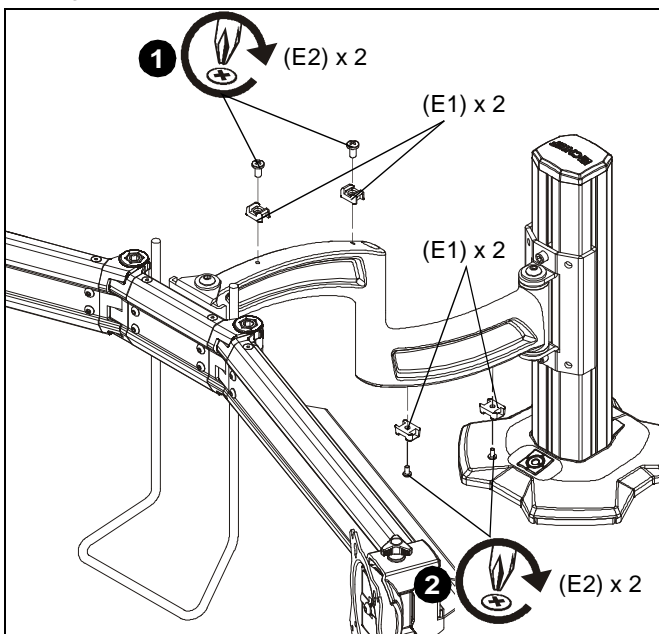

Figure 25
1. Use two #10-24 x 3/8" button head cap screws (E2) to attach two tie mounts (E1) to upper mounting arm. (See Figure 25)
2. Use two #10-24 x 3/8" button head cap screws (E2) to attach two tie mounts (E1) to lower mounting arm. (See Figure 25)